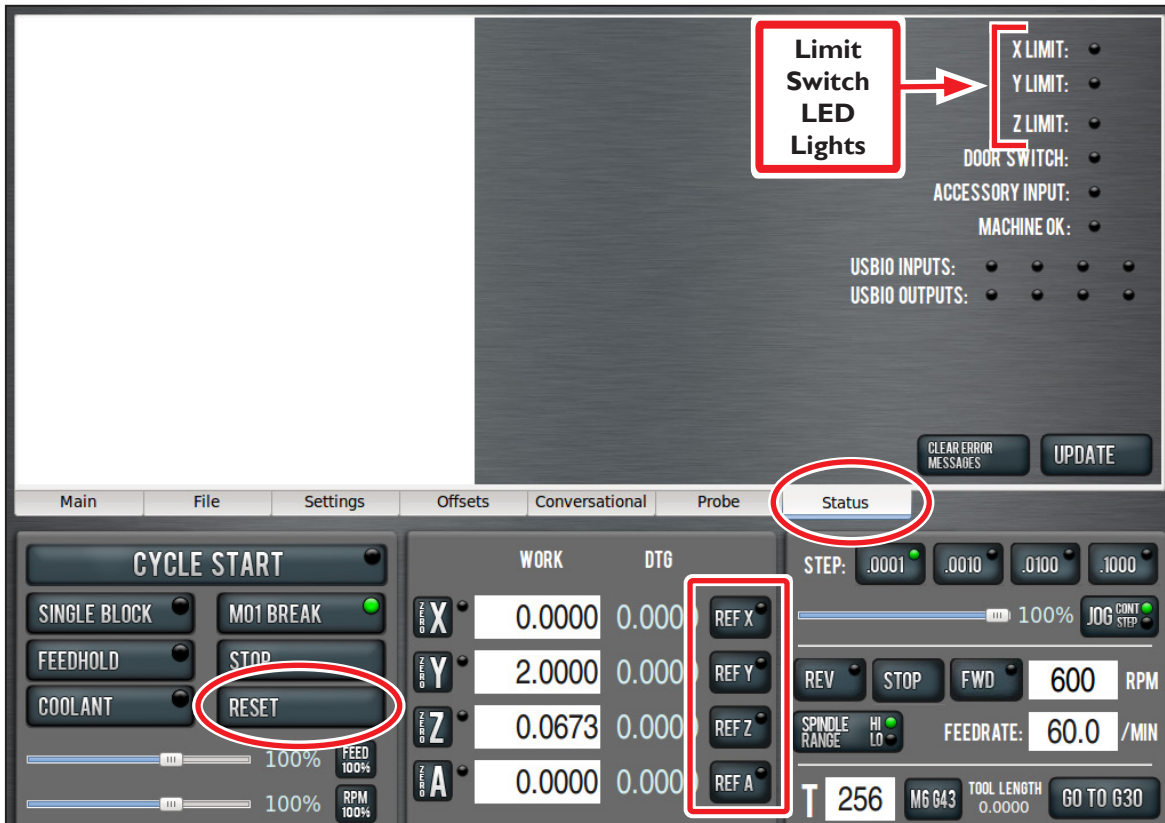

Figure 3.20
3. Verify that the corresponding limit switch LED light illuminates on the *Status* screen (see **Figure 3.20**).
4. After verifying limit switch function, click the flashing *Reset* button (see **Figure 3.20**).
1. Reference the mill by clicking the *Ref Z*, *Ref X*, and *Ref Y* buttons (see **Figure 3.20**); the mill moves.